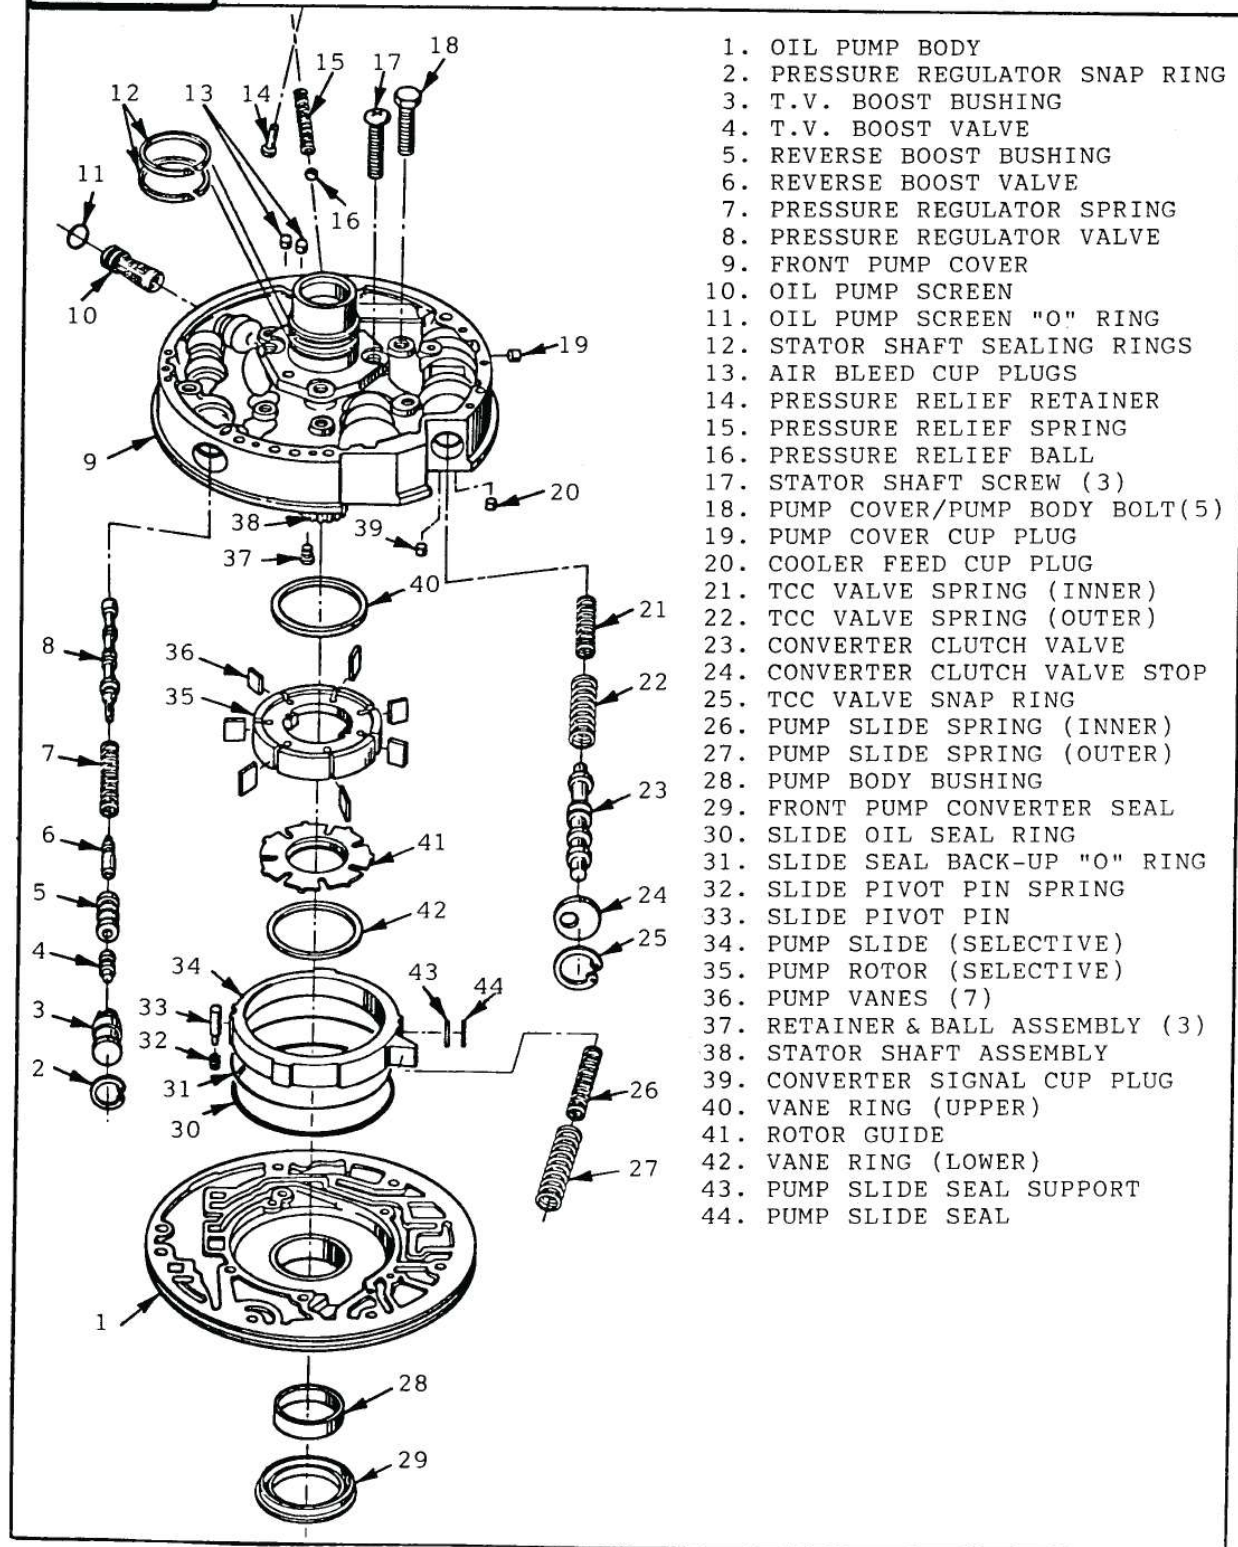

Figure 96
19. Refer to Figure 96 for disassembly process.
19. Install inner and outer converter clutch valve springs into the pump cover, into the converter clutch valve bore. (See Figure 96).
24. Install modified pressure regulator valve into pressure regulator valve bore in the pump cover (See Figure 96).